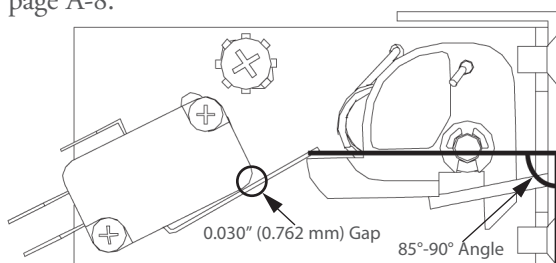

Figure 27: Switch Detail and Proper Alignment
Use the following procedure to adjust the primary, secondary, and monitor switches. The secondary switch is located on the left side hinge assembly and the monitor switch is located on the right side hinge assembly. The primary switch is located on the upper-left corner of the oven and utilizes an actuator (attached to the door) and toggle assembly (attached to the chassis) to engage (Figure 27). For switch assembly details, see page A-8.
2. If adjusting the primary switch, confirm the primary switch's latch toggle is in the correct position (Figure 27).
- a. Visually inspect the latch toggle position and verify it is angled at no less than 85° and no more than 90° in reference to the front flange (oven face). See Figure 27.